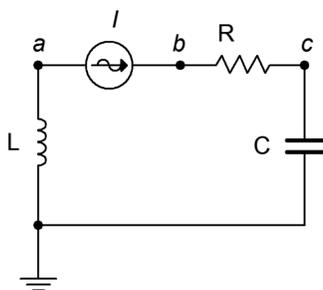

Figure 2.30
48. For the circuit of Figure 2.30, determine  $v_{ac}$ ,  $v_b$  and  $v_a$ . The source is a 2 mA peak-peak sine at 300 kHz,  $R = 560 \text{ }\Omega$ ,  $C = 6.8 \text{ nF}$  and  $L = 400 \text{ }\mu\text{H}$ .